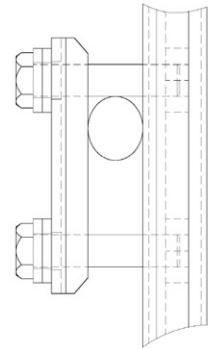

Figure 3
1. Requires the mounting bracket positioned with flanges toward the ladder rung as shown in figure below. Use washers under heads of bolts (Figure 3).